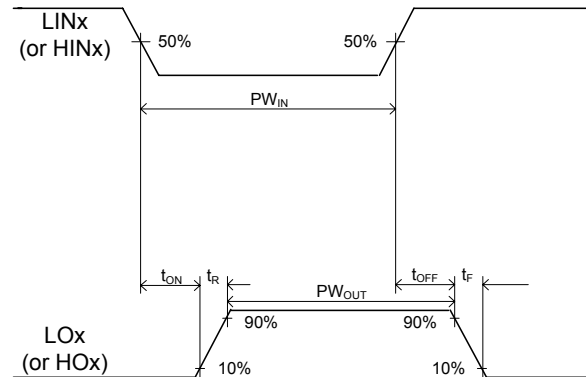

Figure 3: Switching time waveforms
The relationship between the input and output signals of the IRS233(0,2)(D) are illustrated below in Figures 3. From these figures, we can see the definitions of several timing parameters (i.e., PW_{IN} , PW_{OUT} , t_{ON} , t_{OFF} , t_R , and t_F) associated with this device.